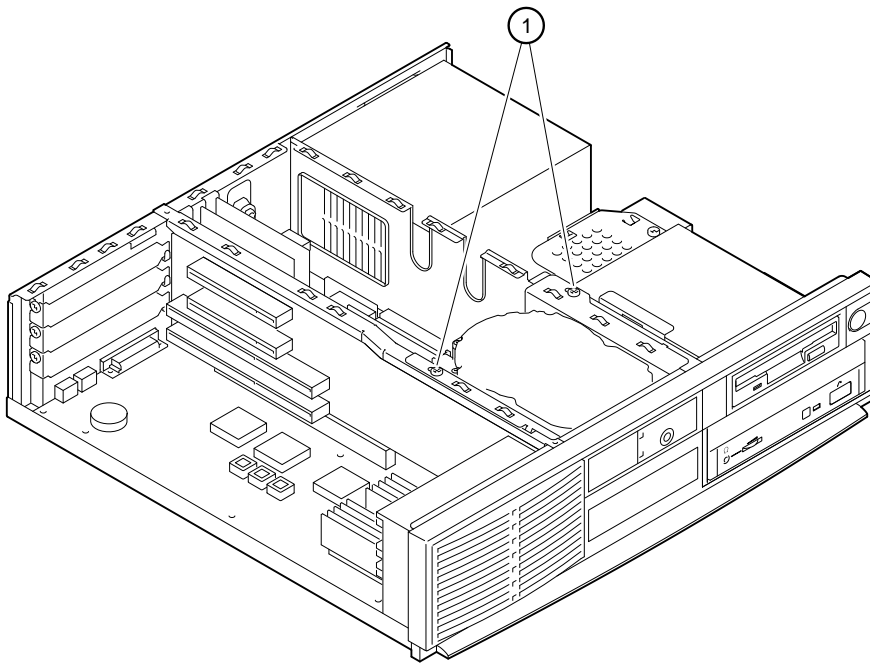

Figure 3-9. Loosening Drive Bracket Screws
2. Remove the two screws ① holding the drive bracket, lift the rear of the bracket, and then slide the bracket to the rear slightly and lift it out of the system unit, as Figures 3-9 and 3-10 show. Remove cables from the drive *after* the assembly has been lifted out of the system unit.